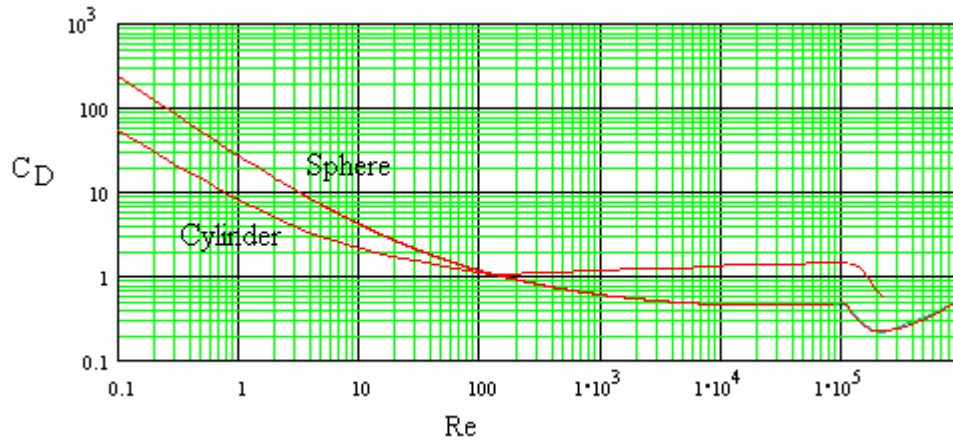

Fig.1.12
Fig. 1.12 shows an approximate relationship between  $C_D$  and  $Re$  for a cylinder and a sphere.
2. Using the graph (fig.1.12) to find the drag coefficient, determine the drag force per metre length acting on an overhead power line 30 mm diameter when the wind blows at 8 m/s.
Fig. 1.12 shows this approximate relationship between  $C_D$  and  $Re$ .